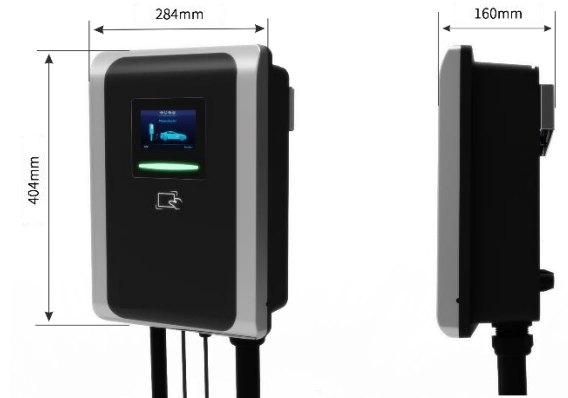

Fig. 4-1 The shape & dimensions of VISION
- The shape & dimensions of VISION shown as Fig. 4-1.